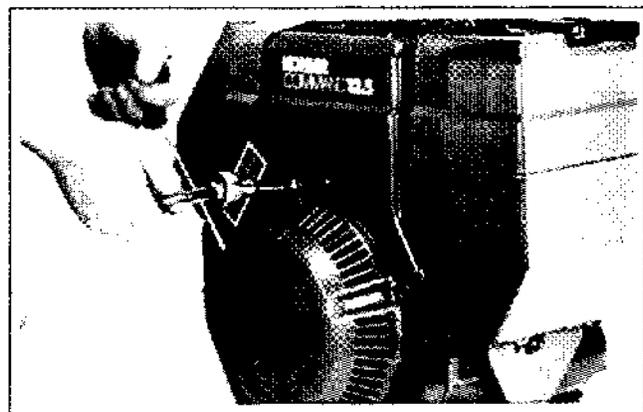

Figure 11-50. Installing Retractable Starter.
2. Pull the starter handle out until the pawls engage in the drive cup. Hold the handle in this position and tighten the screws securely. See Figure 11-50.